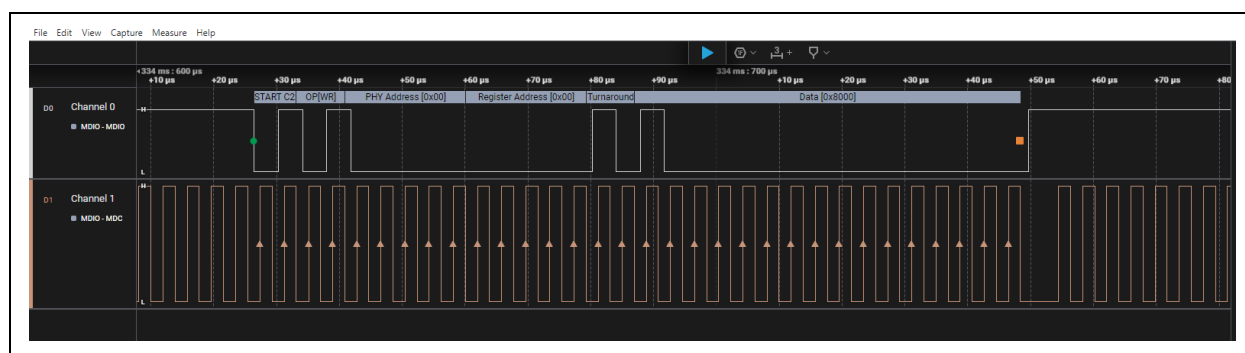
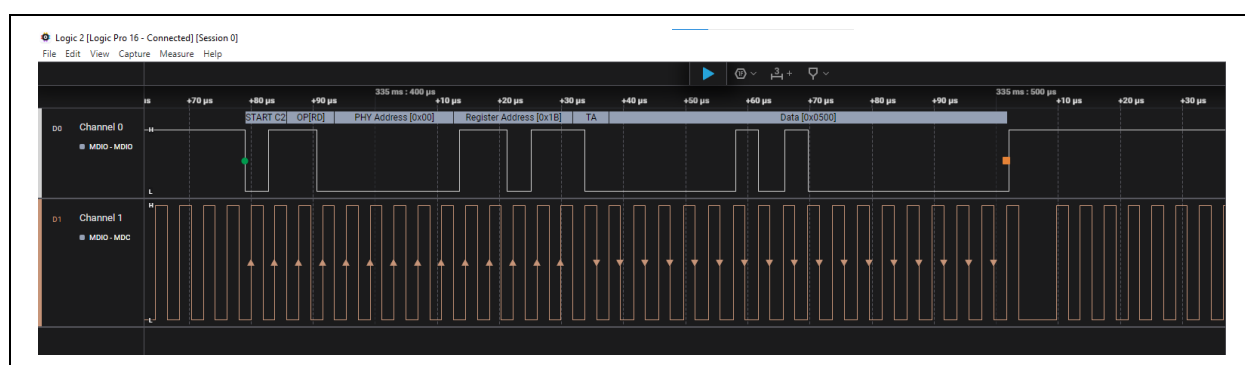

Figure 19. Snapshot of RA (EK-RA6M5 board) PHY Write using Saleae Logic analyzer
Figure 20. Snapshot of RA (EK-RA6M5 board) PHY Read using Saleae Logic analyzer
- Verify that you can write and read from the PHY device with the PHY APIs provided by FSP. This can be verified using the protocol Analyzer (such as the Saleae logic analyzer) with a MDIO analyzer connecting the MDC and MDIO line (Reference **Figure 19** and **Figure 20**).
By connecting the MDC and MDIO pins to Saleae logic analyzer the MDIO Write and read operations can be captured. In the **Figure 19**, you can see the snapshot of PHY write to the PHY address 0x00 and Register Address 0x00 with the data 0x8000 can be seen. Similarly, in **Figure 20**, the PHY read for the PHY address 0x00 and register address 0x1B with the data 0x0500 are shown.